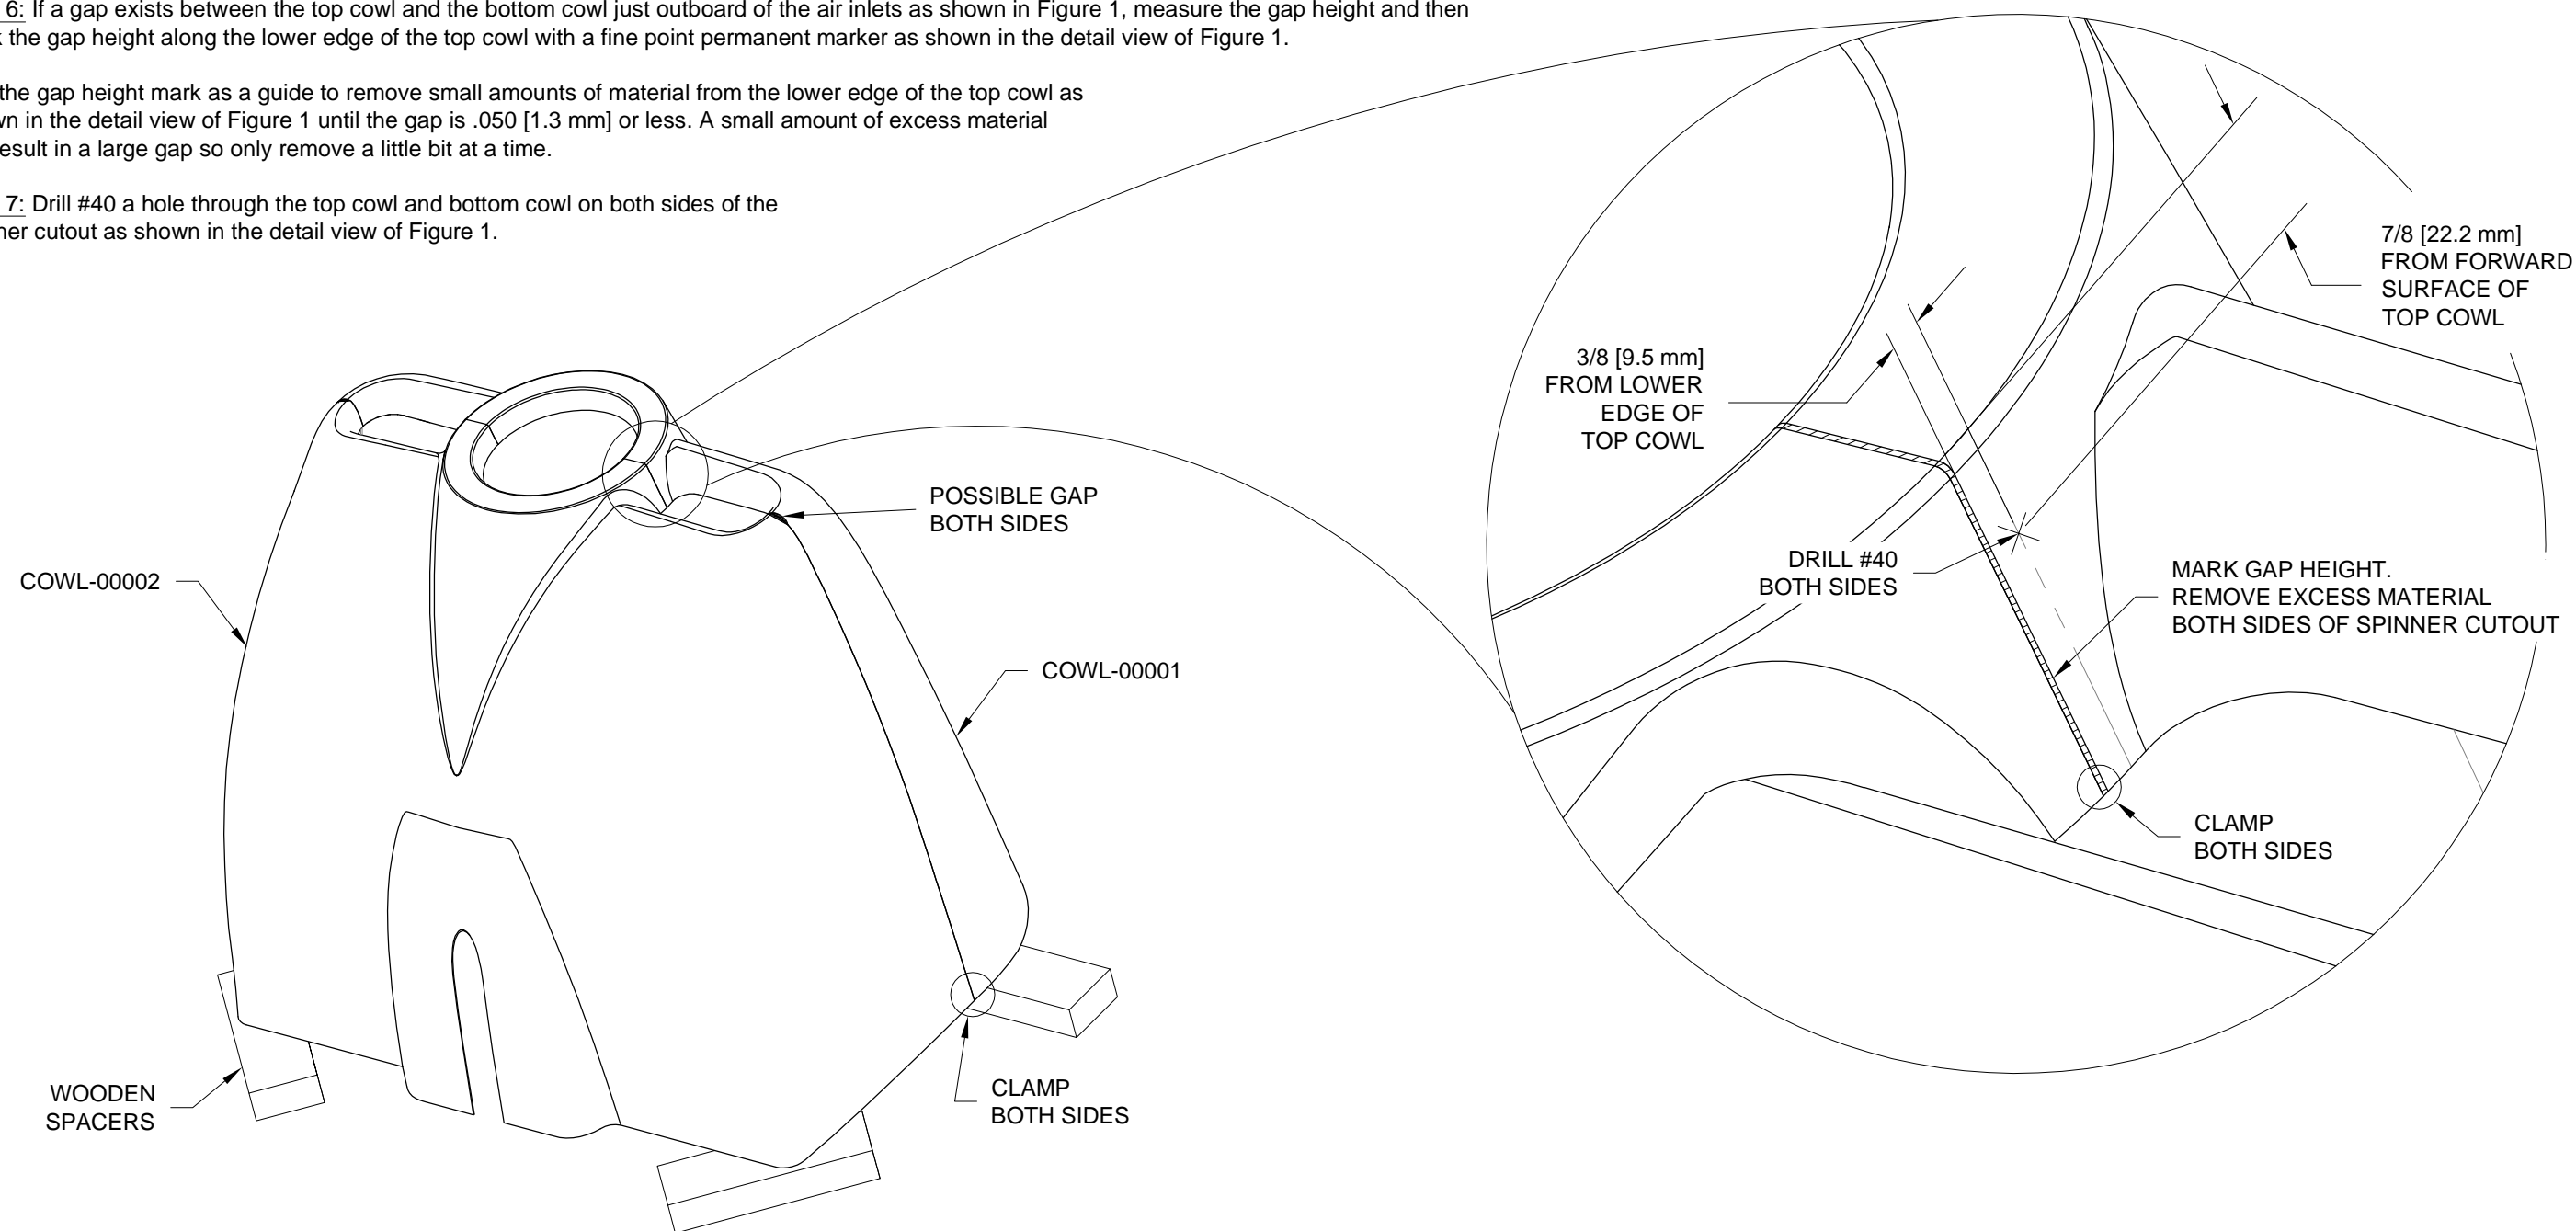

FIGURE 1: FIT COWL HALVES
Use the gap height mark as a guide to remove small amounts of material from the lower edge of the top cowl as shown in the detail view of Figure 1 until the gap is .050 [1.3 mm] or less. A small amount of excess material will result in a large gap so only remove a little bit at a time.
Step 7: Drill #40 a hole through the top cowl and bottom cowl on both sides of the spinner cutout as shown in the detail view of Figure 1.
NOTE: Refer to Figure 1 for the following steps: